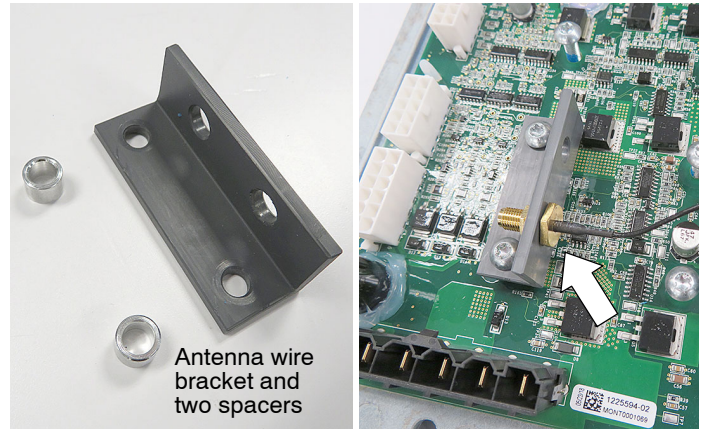

Fig. 7
2. Install the new IRIS circuit board to the heat-sink panel using existing hardware. Attach the antenna wire bracket to the board and connect the antenna wire from the IRIS circuit board as shown (Figure 7).